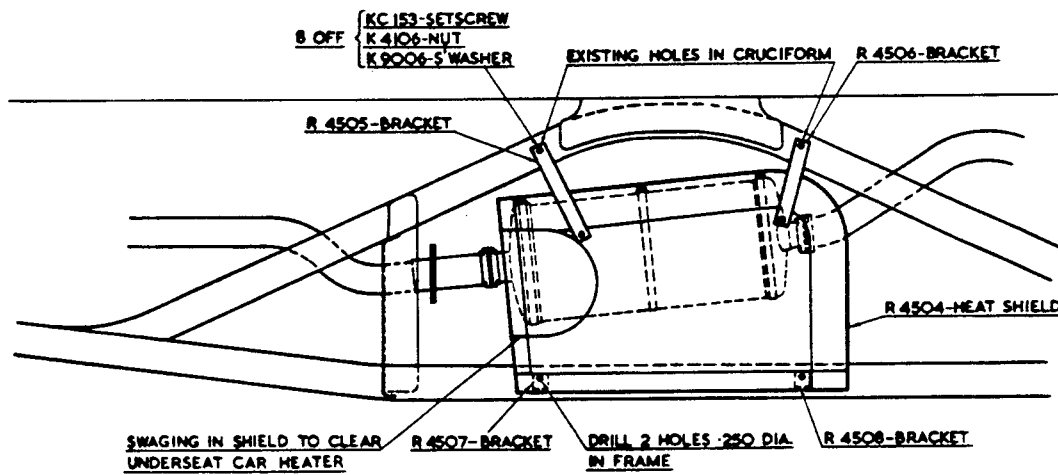

FIG. 2. GENERAL ARRANGEMENT OF HEAT SHIELD IN POSITION.
3. Locate the two clips securing the one-shot lubrication pipe to the underside of the top flange of the cruciform on the left-hand side, and remove the existing 2-BA screws and nuts. (Shown in Fig. 2 as existing two holes in cruciform).
5. When the requirements are obtained, remove the silencer, mark off the relative positions for the mounting bracket bolt holes on the top flange of the frame side member, and drill accordingly (Fig.2). Secure outer mounting brackets to frame.